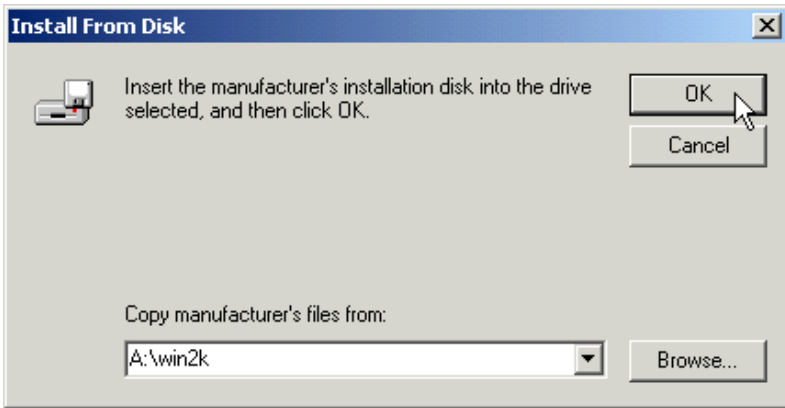

Figure 41. Install From Disk
- 3 The **Install from Disk** (Figure 41) dialog appears. Insert the 3ware driver installation diskette and type A:\win2k in **Copy manufacturer's files from:** at the bottom of the box.